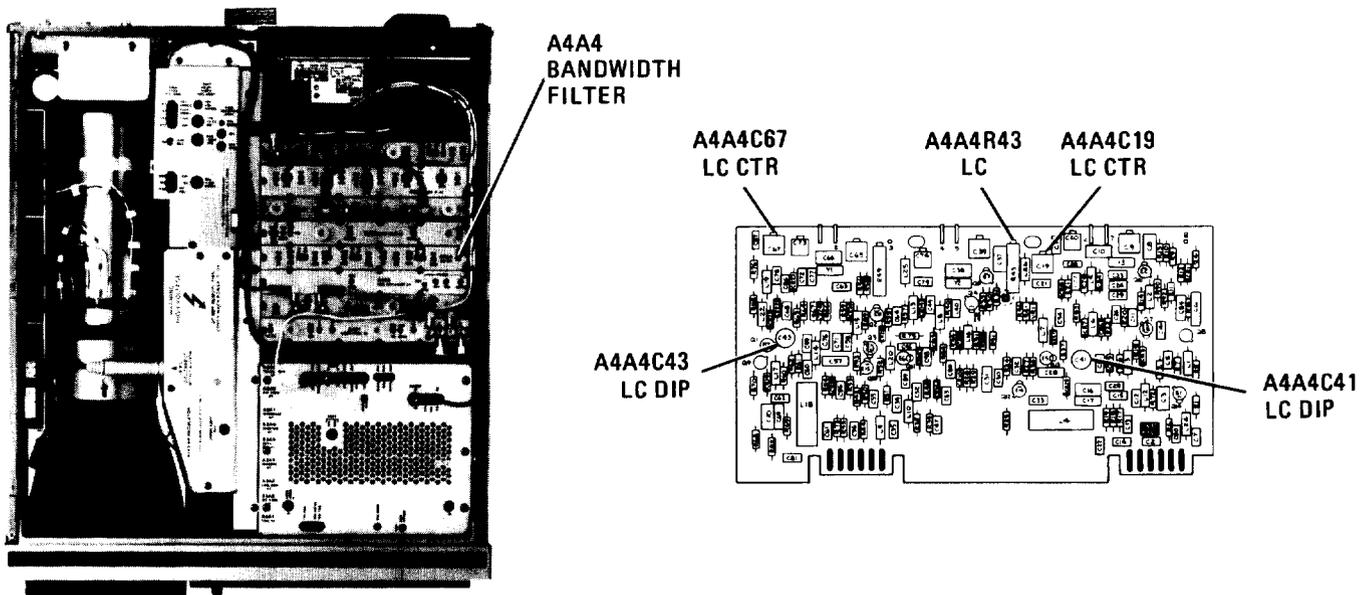

FIGURE 27. LOCATION OF A4A4 21.4 MHz LC FILTER ADJUSTMENTS
10. Adjust A4A4C67 LC CTR and A4A4C19 LC CTR for maximum MARKER level as indicated by CRT annotation. Refer to Figure 27 for location of adjustments. If unable to adjust LC CTR adjustments for satisfactory signal amplitude, increase or decrease value of A4A4C17 and A4A4C70. Refer to Table 3 for range of values.
14. Adjust A4A4R43 LC to align markers on display. MARKER Δ level should indicate 1.00 X. Refer to Figure 27 for location of adjustment.
55. Adjust A4A4C41 LC DIP for minimum amplitude of signal peak. Refer to Figure 27 for location of adjustment. If unable to achieve a “dip” in signal amplitude, increase or decrease value of A4A4R16. Refer to Table 3 for range of values.
57. Adjust A4A4C43 LC DIP for minimum amplitude of signal peak. Refer to Figure 27 for location of adjustment. If unable to achieve a “dip” in signal amplitude, increase or decrease value of A4A4R60. Refer to Table 3 for range of values.